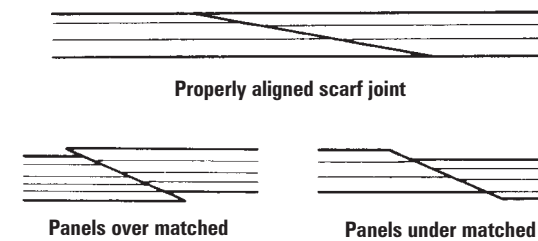

Figure 6
4. Place the panels together and align the scarfed edges so they are perfectly aligned—neither over matching nor under matching bonding surfaces. When properly aligned, place a staple at each end of the joint to fix the position of the panels (See Figure 6).